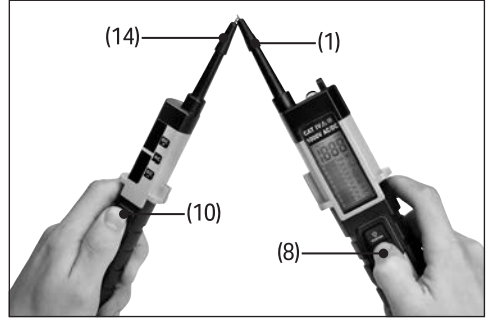

Fig. 3
6.2 Self Diagnostic Function (Fig. 3)
1. Press both **POWER** buttons (8) and (10) at the same time.
2. Then short both metal probe contacts (1) and (14) (Fig. 3).